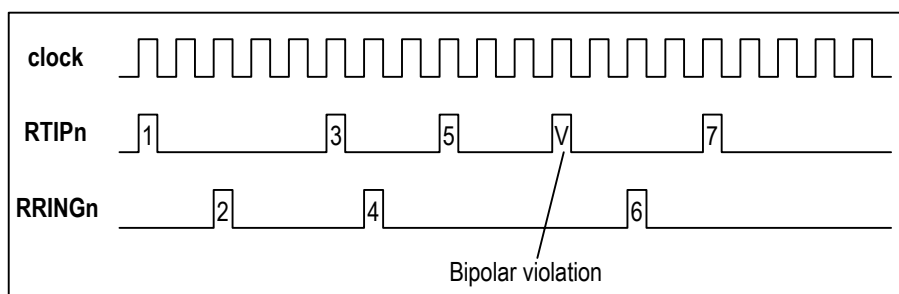

Figure 8. AMI Bipolar Violation Error
- Bipolar Violation (BPV) Error: When AMI line code rule is used, the BPV error will be detected if two consecutive pulses are received with the same polarity (refer to Figure 8). The event of the Bipolar Violation (BPV) Error is forwarded to the Performance Monitor.
- B8ZS Code Violation (CV) Error: When B8ZS line code rule is used, a CV error is detected when the received code does not match the standard B8ZS line code pattern (except the Excessive Zero error).